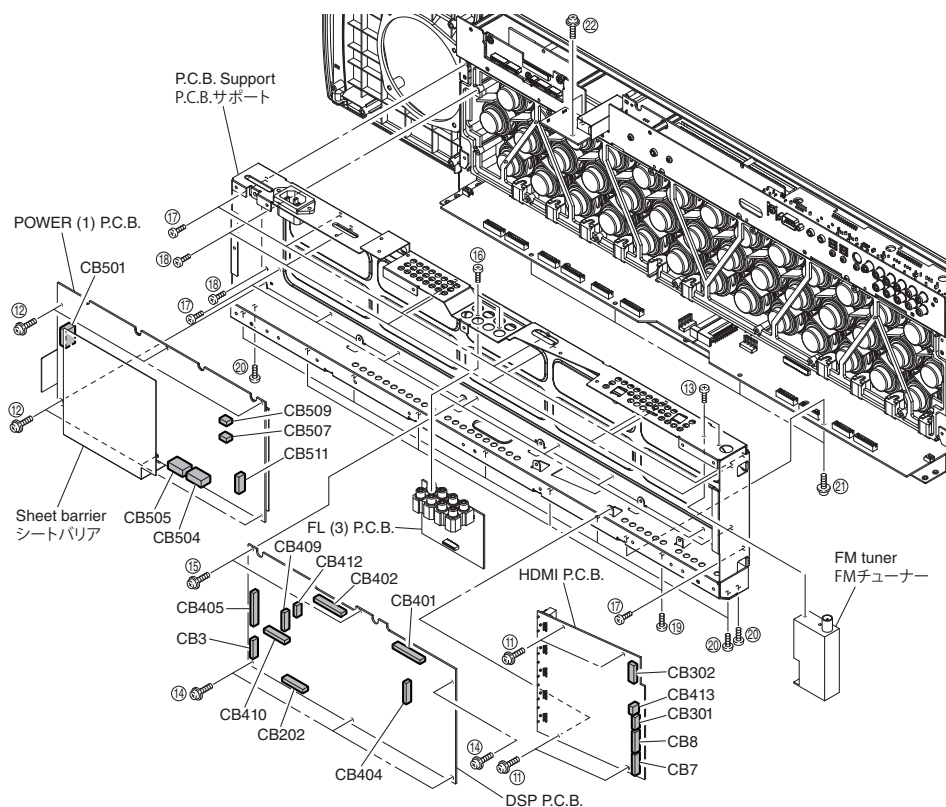

Fig. 2
- Remove 4 screws (11). (Fig. 2)
- Remove CB7-8, CB301-302 and CB413. (Fig. 2)
- Remove the HDMI P.C.B. (Fig. 2)
6. Removal of POWER (1) P.C.B.
- Remove 6 screws (12). (Fig. 2)
- Remove CB410, CB412, CB501, CB504-505, CB507-509 and CB511. (Fig. 2)
- Remove the POWER (1) P.C.B. together with the sheet barrier. (Fig. 2)
7. Removal of FM tuner, DSP P.C.B. and FL (3) P.C.B.
- Remove 2 screws (13). (Fig. 2)
- Remove CB404. (Fig. 2)
- Remove the FM tuner. (Fig. 2)
- Remove 4 screws (14) and 2 screws (15). (Fig. 2)
- Remove CB3, CB202, CB401-402 and CB406-407. (Fig. 2)
- Remove the DSP P.C.B. (Fig. 2)
- Remove 2 screws (16). (Fig. 2)
- Remove the FL (3) P.C.B.. (Fig. 2)
- Remove 8 screws (17). (Fig. 2)
* Screws (17) are identified with arrow marks (⇒). (Fig. 2)
- Remove 14 screws (18). (Fig. 2)
* Screws (18) are identified with marks (P). (Fig. 2)
- Remove 4 screws (19), 7 screws (20), 4 screws (21) and 2 screws (22). (Fig. 2)
- Remove the P.C.B. support (Fig. 2)
- ⑪のネジ4本を外します。(Fig. 2)
- CB7-8、CB301～302、CB413を外します。(Fig. 2)
- HDMI P.C.B.を取り外します。(Fig. 2)
6. POWER (1) P.C.B. の外し方
- ⑫のネジ6本を外します。(Fig. 2)
- CB410、CB412、CB501、CB504～505、CB507～509、CB511を外します。(Fig. 2)
- POWER (1) P.C.B.をシートバリアと一緒に取り外します。(Fig. 2)
7. FM チューナー、DSP P.C.B.、FL (3) P.C.B. の外し方